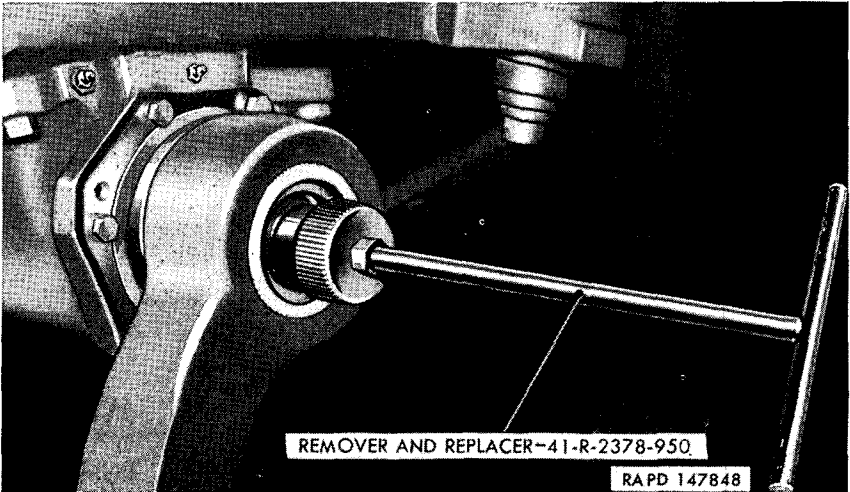

Figure 272. Removing torsion bar.
To remove the road wheel torsion bars, screw the remover and replacer 41-R-2378-950 into the tapped hole at end of torsion bar and then pull the torsion bar out from arm (fig. 272). To remove the compensating-idler-wheel-torsion bars, install adapter 41-A-18-400 to torsion bar; then attach the remover and replacer 41-R-2378-950 to the adapter, and pull out torsion bar.
d. **INSTALLATION OF TORSION BARS.** Coat both torsion bar serrations with grease as specified in lubrication order (fig. 87). Install torsion bar anchor, cover, and gasket but do not tighten cover bolts fully until torsion bar is installed. Install the torsion bar with the remover and replacer 41-R-2378-950 (fig. 272).